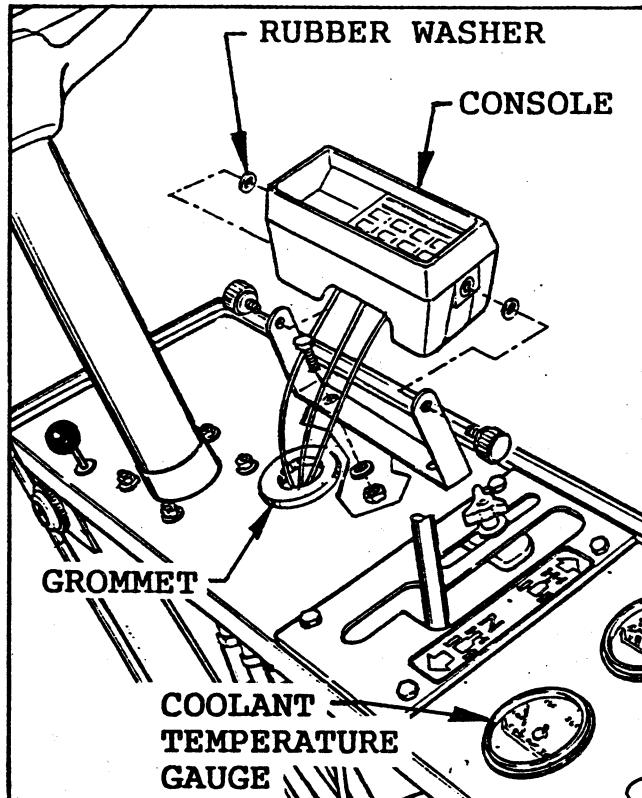

FIG. 1
- Mount the bracket in the two holes provided in the dash panel, using two 1/4" bolts, lock washers and nuts as shown in FIG. 1.